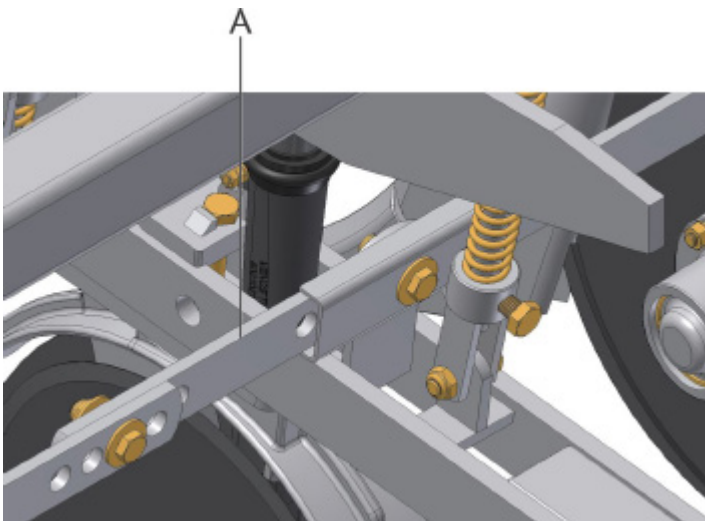

fig. 04
- 3- Remove the spacing bars (A) (fig. 04), loosening the screws, bushings and washers;
- 6- Assemble the spacing bars (A) (fig. 04) as per the option required.